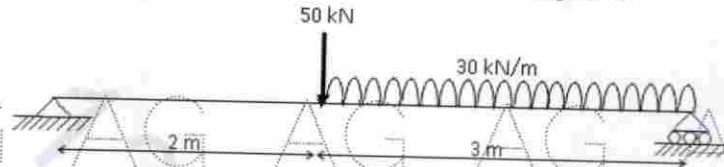

Figure: 3
7. Determine the location and magnitude of maximum deflection and the slopes at the supports of a beam supported and loaded as shown in Figure 3. [15]